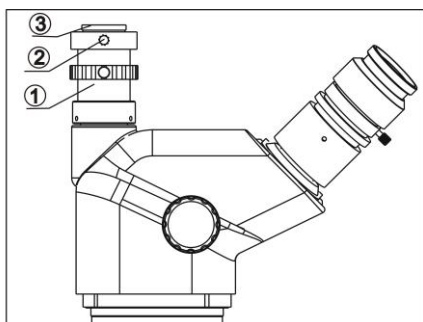

Fig 7
- (1) Screw video tube ① into M28 hole of tri-tube. (Fig 7)
- (2) Loose the lock-screw ② on TV tube, and take off the C-mount ③ from tube.
- (3) Screw the C-mount into video camera.
- (4) Connect the video camera with TV tube and lock by screw ②.